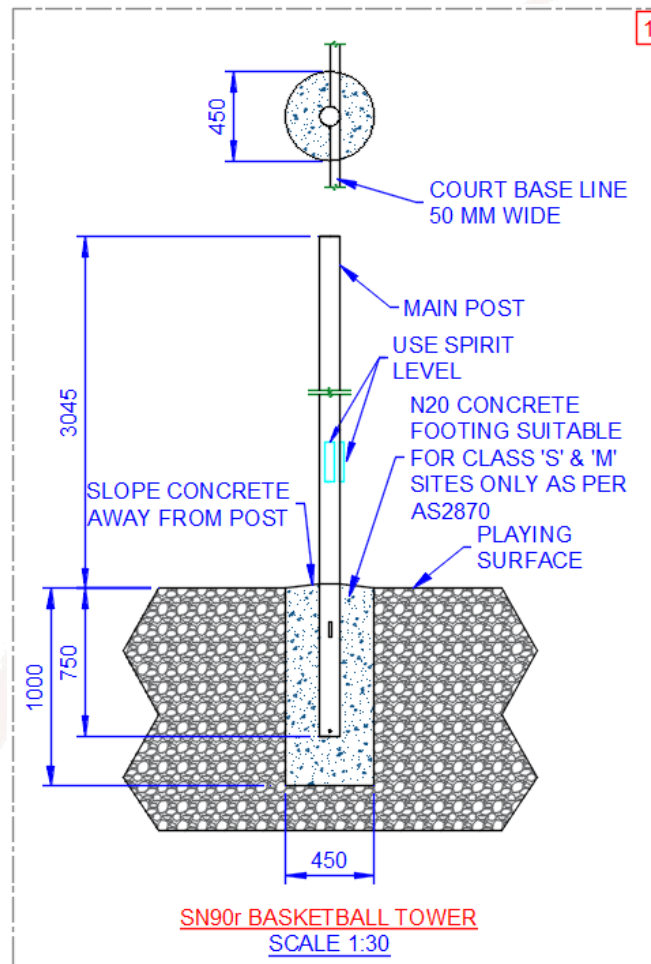

Figure 3: SN90r Footing Detail
- *Please refer to Figure 3 for further details. The post must be installed in a specific orientation as shown in the Figure and it is the Installer/Contractor responsible for ensuring that.*